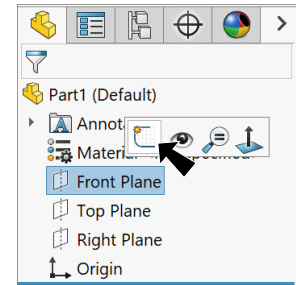

Fig. 1
Step 2. Click **Front Plane** in the Feature Manager and click **Sketch** from the context toolbar, **Fig. 1**.